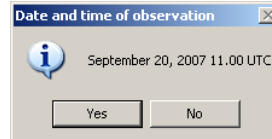
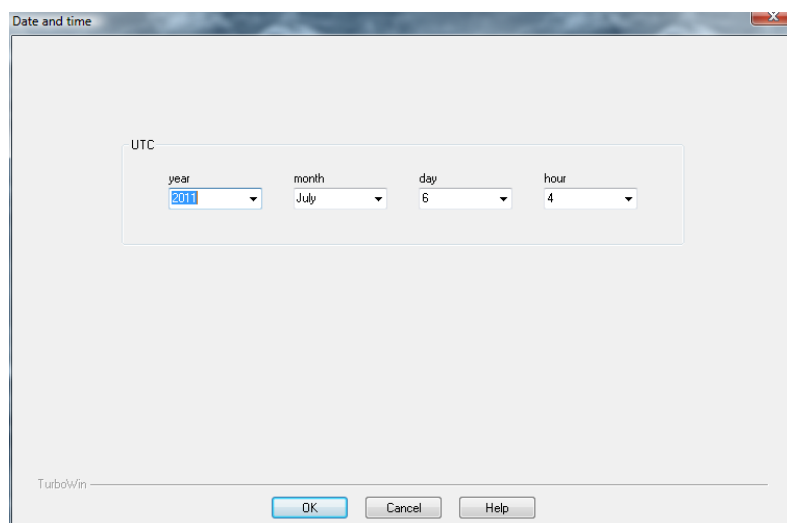

Figure 8. Automatic Date and time dialogue box
Figure 9. Date and time dialogue box
10.2.2. If the date and time on the computer running **TW50** are set to UTC, the Observing Officer must confirm the observation date and time as shown in **Figure 8** when starting **TW50**. If this dialogue box does not appear, or if the date and time are incorrect, the Observing Officer must enter the correct date and time in the dialogue box shown in **Figure 9**. The values may be typed or selected from the drop-down lists.